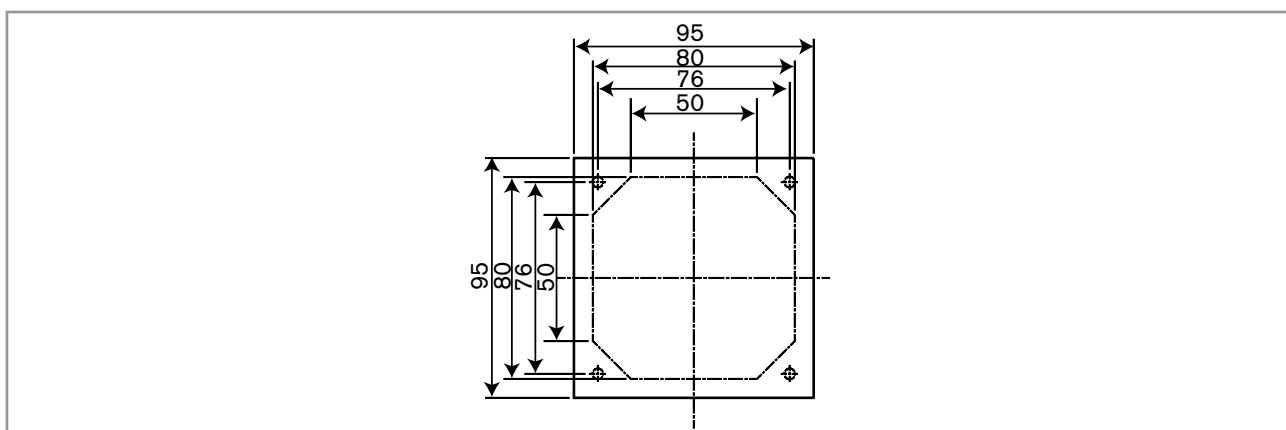

Fig. 10: Dimensions [mm] of the electrical cabinet frontage cutting plan
- Respect the dimensions indicated in Fig. 10 to cut the opening in the cabinet door.